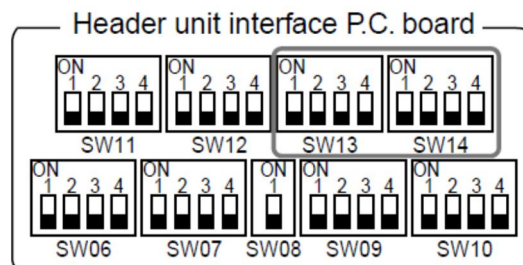

Fig 5
- 5) When setting up multiple systems for connection to a central remote controller or BMS system, confirm that the “Systems” are unequally addressed. Factory system setting is number 1. System addressing is carried out on the “Lead” unit of each system via dip switches SW13 bits 1 to 4 and SW14 bits 1 to 4. (Fig 5 & Fig 6).